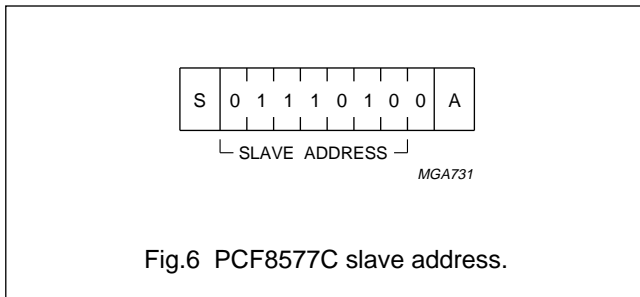
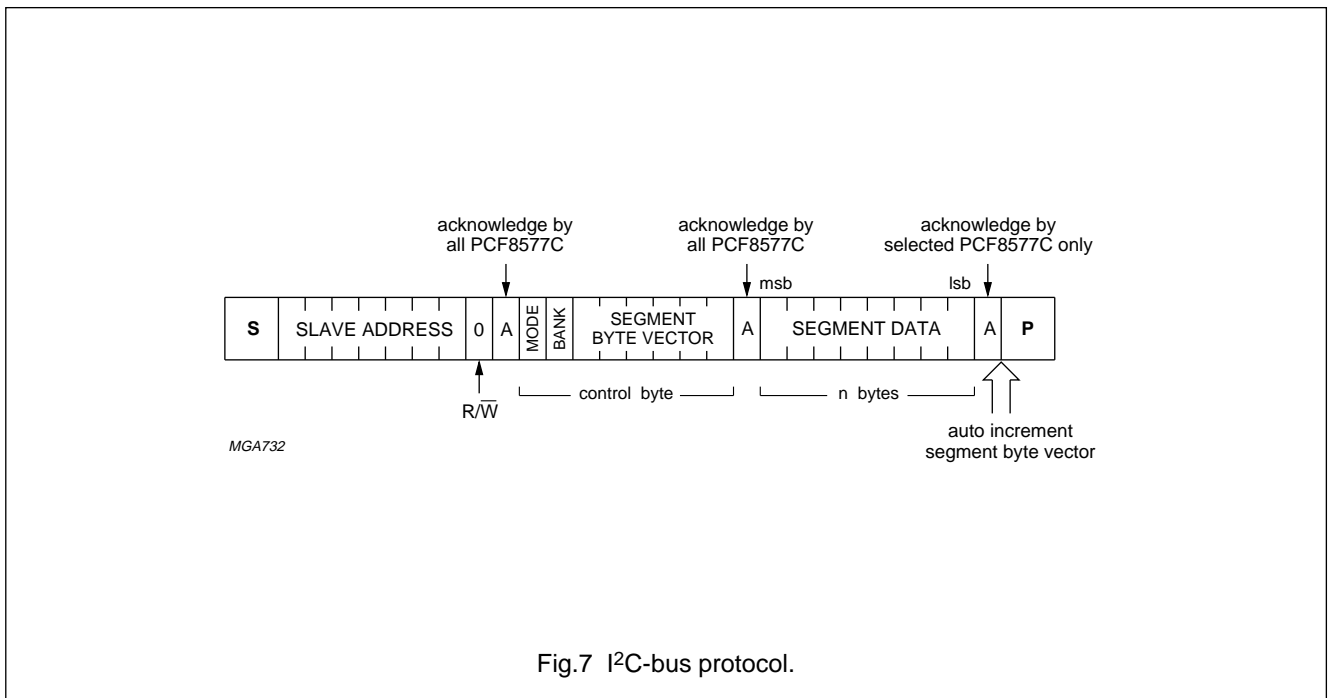

Fig.6 PCF8577C slave address.
Fig.7 I2C-bus protocol.
There is one slave address for the PCF8577C (see Fig.6). All addressed devices load the second byte into the control register and each device maintains an identical copy of the control byte in the control register at all times (see I2C-bus protocol, Fig.7), i.e. all addressed devices respond to control commands sent on the I2C-bus.
The PCF8577C slave address is shown in Fig.6.
The PCF8577C I2C-bus protocol is shown in Fig.7.
The PCF8577C is a slave receiver and has a fixed slave address (see Fig.6). All PCF8577Cs with the same slave address acknowledge the slave address in parallel. The second byte is always the control byte and is loaded into the control register of each PCF8577C connected to the I2C-bus. All addressed devices acknowledge the control byte. Subsequent data bytes are loaded into the segment registers of the selected device. Any number of data bytes may be loaded in one transfer and in an expanded system rollover of the SBV from 111 111 to 000 000 is allowed. If a stop (P) condition is given after the control byte acknowledge the segment data will remain unchanged. This allows the BANK bit to be toggled without changing the segment register contents. During loading of segment data only the selected PCF8577C gives an acknowledge. Loading is terminated by generating a stop (P) condition.